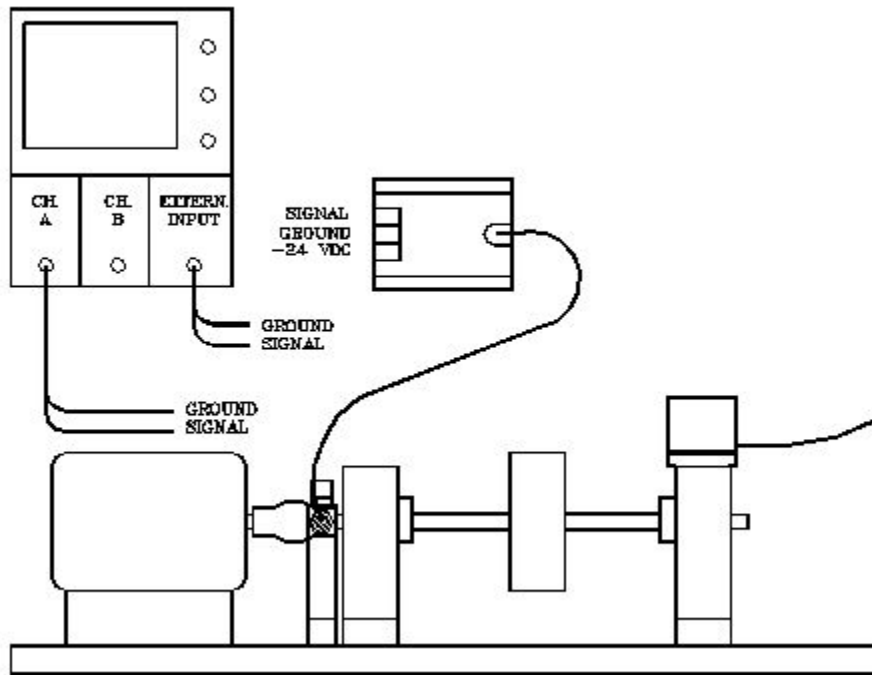

Fig. 10.3
Assemble the demonstration rotor using two (2) anti-friction bearing assemblies, the short rotor shaft, one (1) rotor mass, as shown in Figure 10.3. Install the phase transducers so it views the coupling notch. Install the rotor mass so it is centered between the bearings. Attach the accelerometer to the outboard bearing assembly.